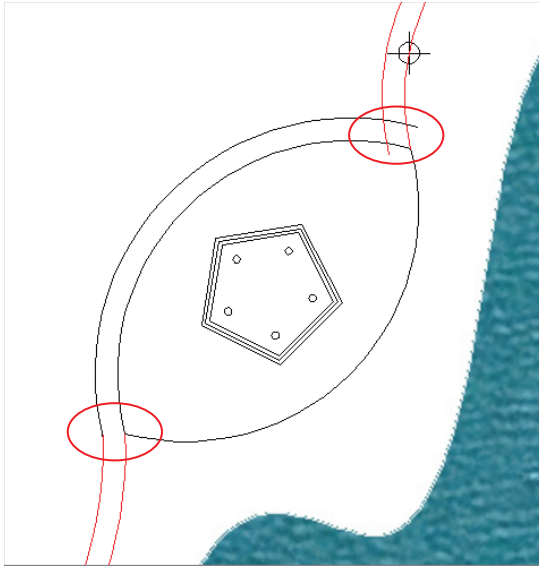

FIGURE 5.5 Trimming polylines and arcs
11. Click the Trim tool in the Modify panel. Press Enter to select all objects as potential cutting edges, and click the portions of the arcs that overlap in the top highlighted area in Figure 5.5. Zoom into the lower highlighted area, and trim the arcs so that they meet at their endpoints. Press Esc to end the TRIM command.